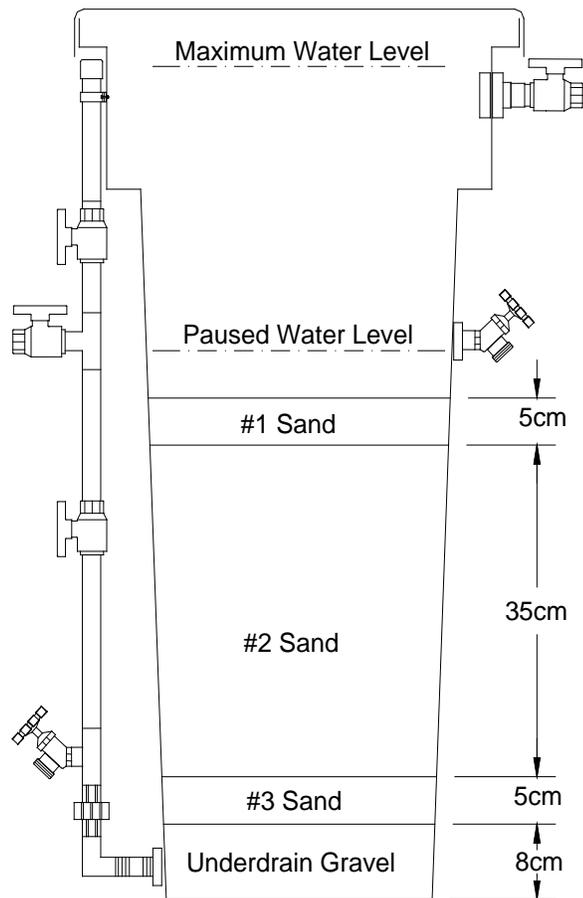

Figure 4-1 Filter Media and Filter Water Levels
Step 3. Add the underdrain gravel to the level indicated (figure 4-1).
Step 4. Level the surface of the underdrain gravel. Referring to Figure 4-1, add the #3 sand to the level indicated. Repeat this procedure with the #2 sand and the #1 sand.
Step 4. Open the inlet valve at the filter to begin filling. Adjust the mechanical float valve in the filter such that the water level does not go higher than the filter overflow. Now wait until the water level reaches the maximum water level in the filter (figure 4-1).